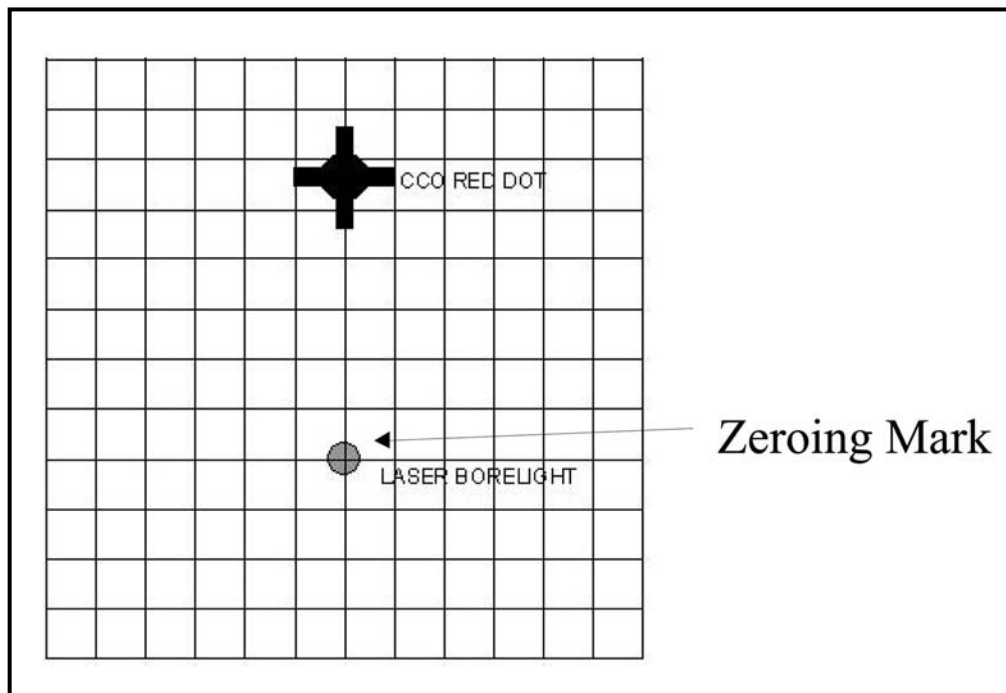

Figure 8-2. Example of a zeroing mark.
(1) Attach the 5.56-mm mandrel to the borelight.
(2) Insert the mandrel into the muzzle of the weapon. The borelight is seated properly when the mandrel cannot be moved any further into the muzzle and the mandrel spins freely. Stabilize the weapon so it will not move.
(3) Measure 10 meters with the 10-meter cord that comes with the borelight or pace off eleven paces.
(4) The zeroing mark is a small dot drawn on a piece of paper, tree bark, or the borelight reference point on the 10-meter boresight target (Figure 8-2, page 8-4).